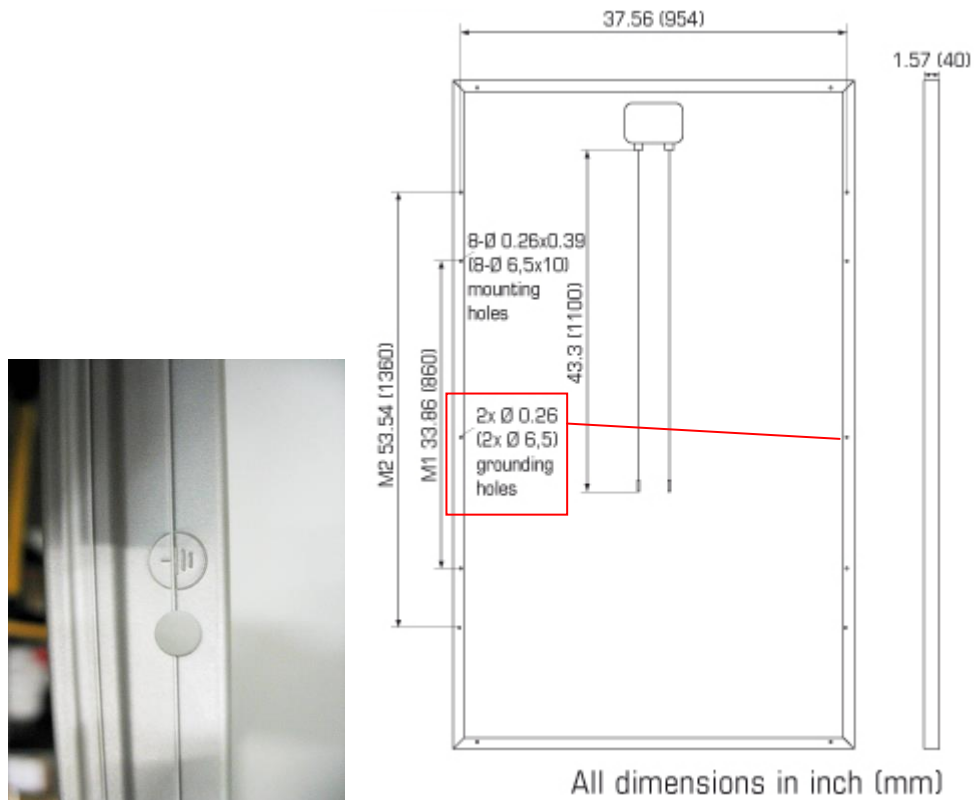

Figure 5
- Please use existing **0.26inch** (6.5mm) diameter grounding holes in the PV module back flange to ground PV module. Refer to Figure 5